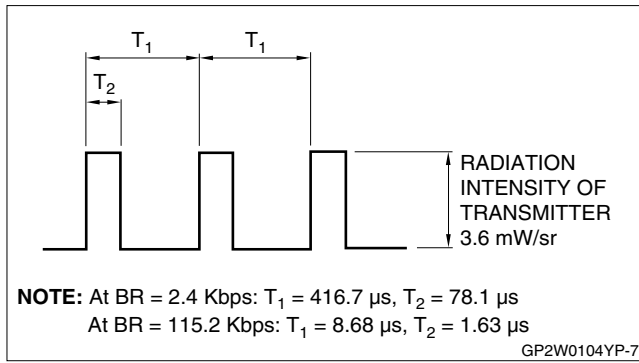

Figure 7. Input Signal Waveform (Detector Side)
3. See Figures 7, 8, and 9.
4. $I_{OL} = 400$ μ A. See Figures 7, 8, and 9.
5. BR = 115.2 kbps, $\phi \leq 15^\circ$, See Figures 7, 8, and 9.